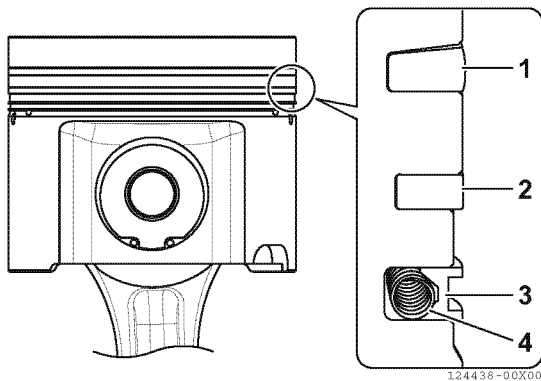
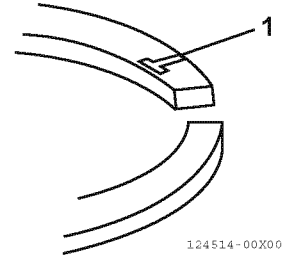

Fig.12-14
Fig.12-15
6. Attach the coil expander (4, Fig.12-14) of the oil ring. Install the oil ring (3, Fig.12-14) so that the end gap of the oil ring is positioned 180 degrees from the end gap of the coil expander. The oil ring and the coil expander does not have a specific direction.
7. Attach a second compression ring (2, Fig.12-14). The second ring has a certain face. A mark (1, Fig.12-15) is embossed on the upper face by the end gap. The second ring says "2T". Attach the ring so that this mark faces the upper side of the piston. The top and bottom of the cross section of the second ring are flat (parallel).
8. Attach a top compression ring (1, Fig.12-14). The top ring also has a certain face. A mark is embossed on the upper face by the end gap, same as the second ring. The top ring says "T". Attach the ring so that this mark faces the upper face of the piston. The inside of the cross section of the top ring is thin.